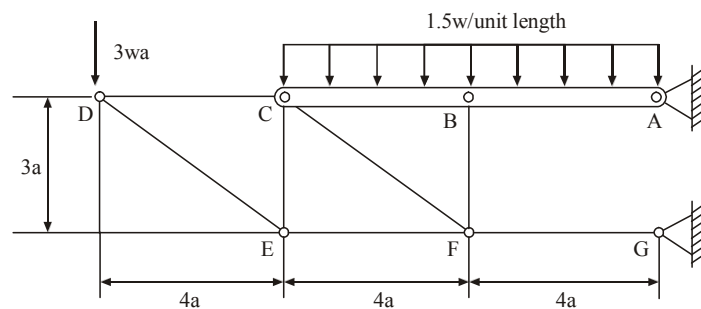

Fig. 4
7. The plane structure shown in Figure 4 consists of a uniform continuous beam ABC pinned to a fixture at A and supported by a framework of pin-jointed members. All members other than ABC have the same cross-sectional area A . For ABC, the area is $4A$ and the second moment of area for bending is $Aa^2/16$. The material is the same throughout. Find (in terms of w , A , a and Young's modulus E) the vertical displacement of point D under the vertical loading shown. Ignore shearing strains in the beam ABC